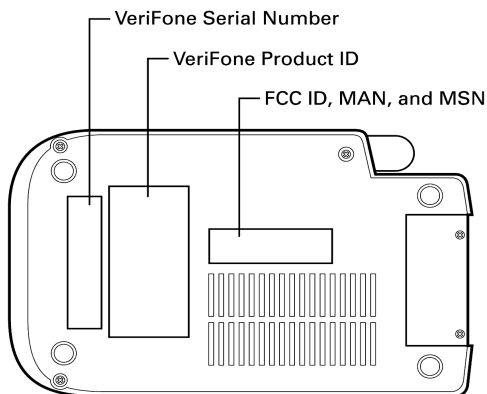

Figure 16 Information Labels on Bottom of Terminal
1. First, obtain the following information from the three printed labels that are affixed to the bottom of each Omni 3200M terminal (see Figure 16):